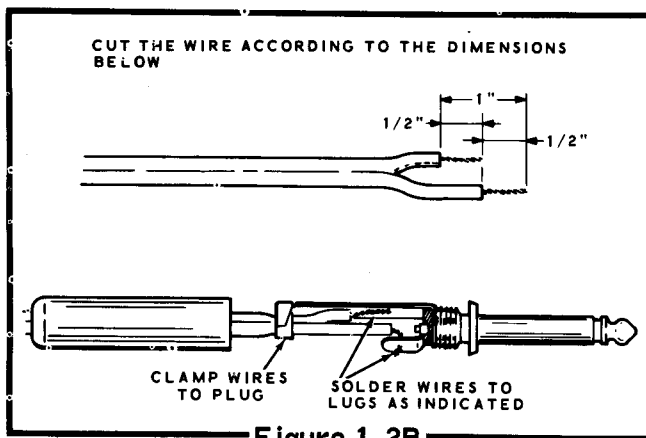

Figure 1-2B
- ( ) Cut a wire to the length required for your installation. Refer to Figure 1-2B and prepare the wire and phone plug assembly for connecting your key to the Transceiver KEY jack. Connect the other end of the wire to the terminals of your key.